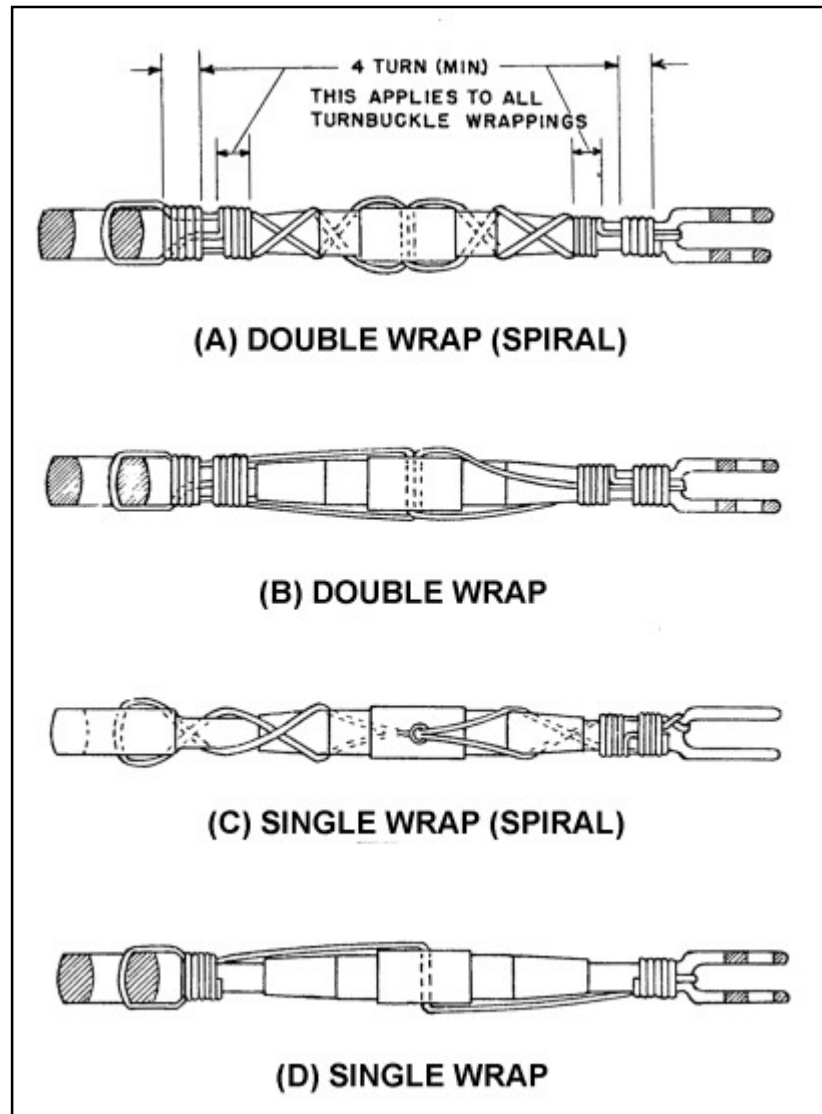

FIGURE 7-26. Safelying turnbuckles.
7-180. DOUBLE-WRAP METHOD. Of the methods using safety wire for safetying turnbuckles, the method described here is preferred, although either of the other methods described is satisfactory. The method of double-wrap safetying is shown in figure 7-26(A).
e. When a swaged terminal is being safetyed, pass the ends of both wires through the hole provided in the terminal for this purpose and wrap both ends around the shank as previously described. If the hole is not large enough to allow passage of both wires, pass the wire through the hole and loop it over the free end of the other wire, and then wrap both ends around the shank as previously described. Another satisfactory double-wrap method is similar to the previous method, except that the spiraling of the wires is omitted as shown in figure 7-26(B).
7-181. SINGLE-WRAP METHOD. The single-wrap methods described in the following paragraphs and as illustrated in figure 7-26(C) and (D) are acceptable, but are not the equal of the double-wrap methods.
a. Pass a single length of wire through the cable eye or fork, or through the hole in the swaged terminal at either end of the turnbuckle assembly. Spiral each of the wire ends in opposite directions around the first half of the turnbuckle barrel, so as to cross each other twice. Thread both wire ends through the hole in the middle of the barrel so that the third crossing of wire ends is in the hole, again, spiral the two wire ends in opposite directions around the remaining half of the turnbuckle, crossing them twice. Then, pass one wire end through the cable eye or fork, or through the hole in the swaged terminals, in the manner previously described. Wrap both wire ends around the shank for at least four turns each, cutting off excess wire. This method is shown in figure 7-26(C).